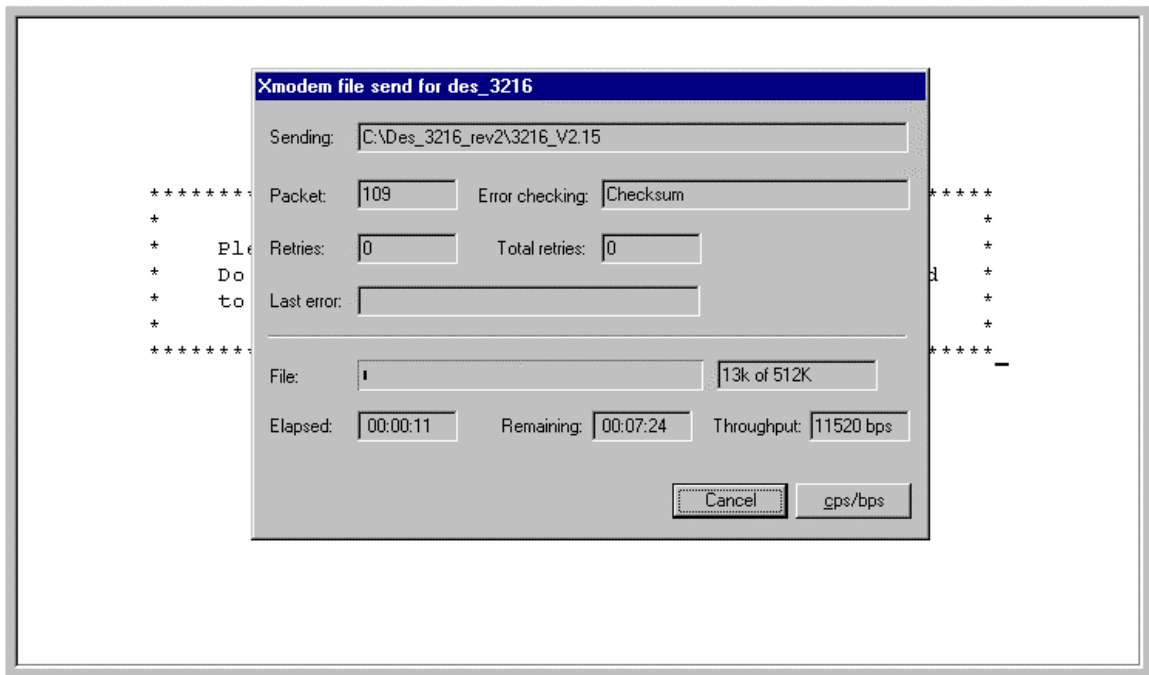

Figure 17: File Transfer through Xmodem
- The panel, displayed in Figure 17, will display statistics about the transfer, including the elapsed time and the time remaining.